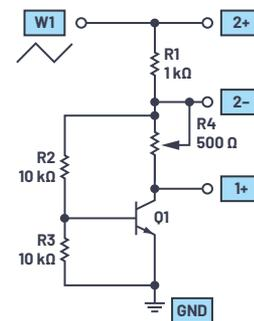

Figure 9. Version 2 of V_{BE} multiplier circuit.
- ▶ How would you modify the values of R2 and R4 in version 2 (Figure 9) to produce a stabilized 1.0 V output?